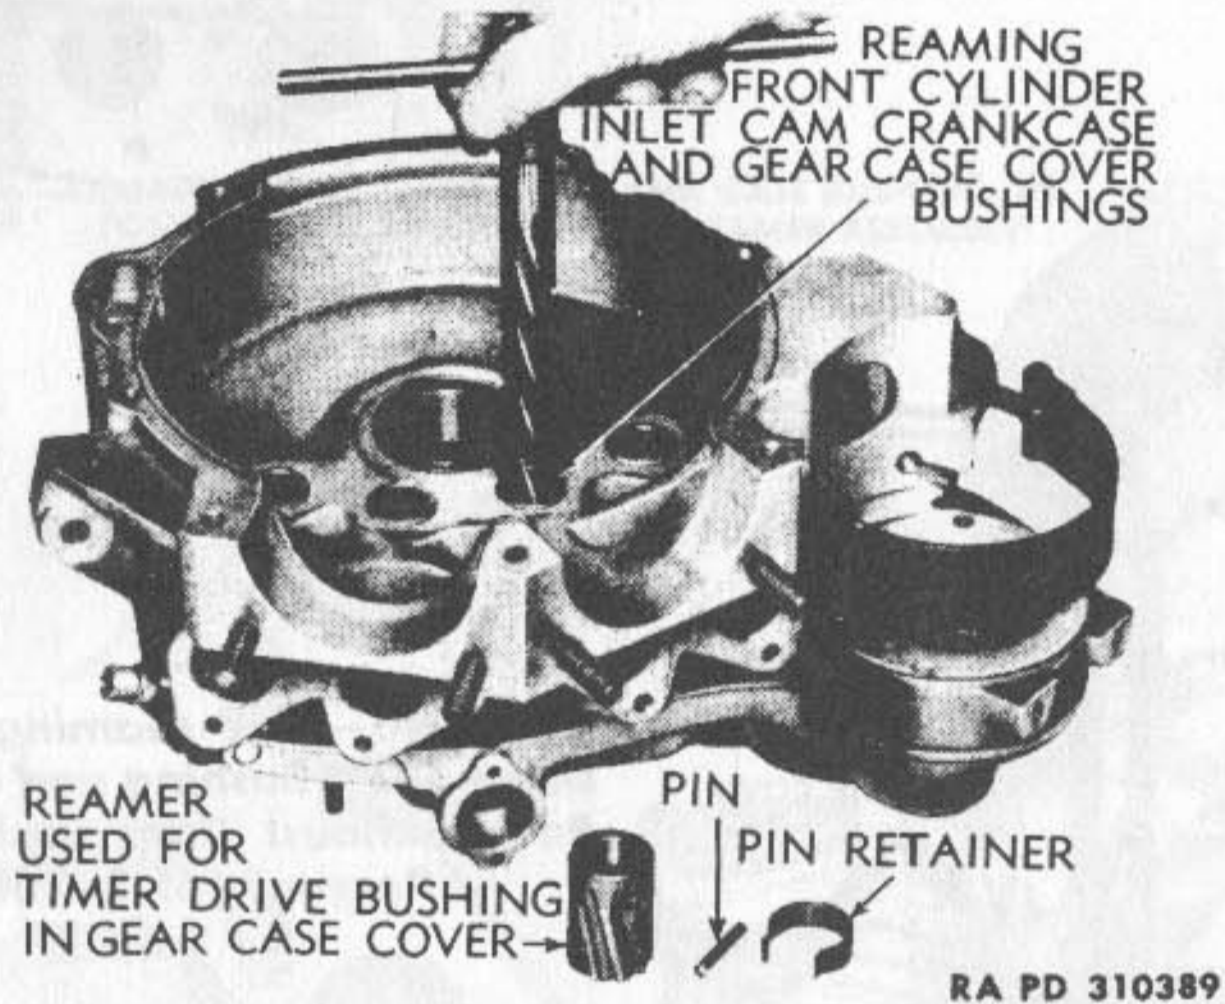

Figure 49—Line-reaming Front Cylinder Inlet and Exhaust Cam Bushings in Crankcase and Gear Case Cover with Reamer (41-R-2265)
(4) **FRONT CYLINDER EXHAUST AND INLET CAMSHAFT BUSHINGS.** Line-ream with reamer (41-R-2265) using only smaller size of reamer combination (fig. 49). Pass reamer through bushings from inside of crankcase and turn just sufficient to clean up and aline bushing holes.